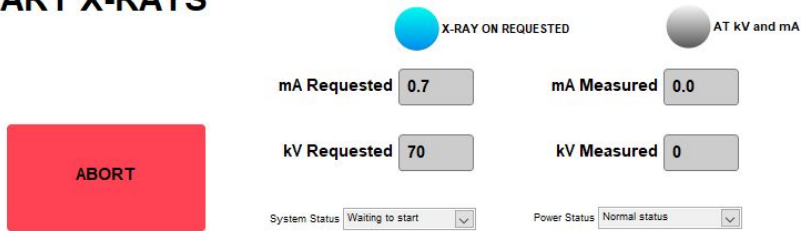

Figure 6. X-Ray status. As the source ramps up, the measured values will update.
8. When the section is over the detector, the x-ray source will ramp up and a status window will be displayed on the screen (Figure 6). Once mA and kV are stable, the window will close and image acquisition will begin. User may abort at any time by clicking the **ABORT** button.